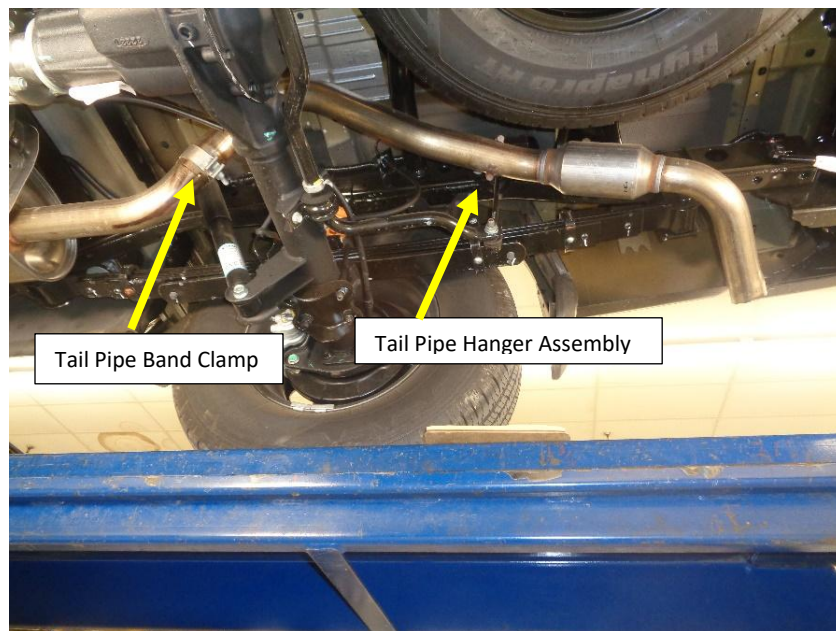

Figure.1
2. Loosen the band Clamp on the tail pipe just after the rear axle and apply penetrating oil to the slip joint. **Fig.1**
3. Remove the (X3) M8 bolts from the tail pipe hanger assembly bolted to the frame just over the axle. **Fig.1**
4. Remove the rubber tail pipe hanger and remove the tail pipe. **Fig. 1**